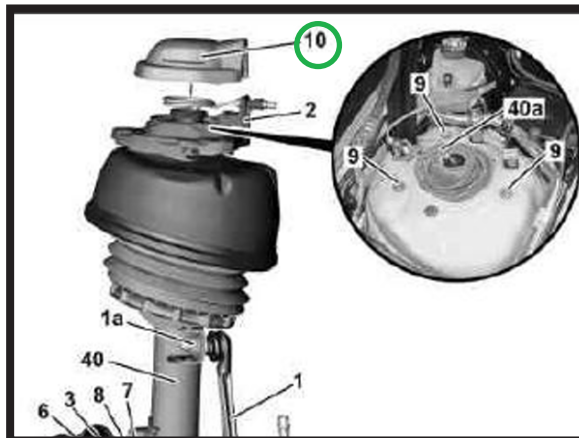

FIGURE 2 - #10
4. REMOVE THE COVER FROM THE TOP OF AIR STRUT TO GAIN ACCESS TO THE AIR LINE. (FIGURE 2 - #10)